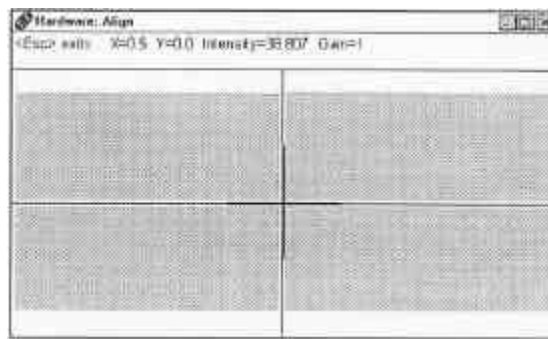

Figure 3. Proper Sample Alignment
- h. The alignment screen in Figure 3 shows proper alignment of the beam. The cross hair is less than  $\pm 1$  on each X and Y scale. The gain is at 1.